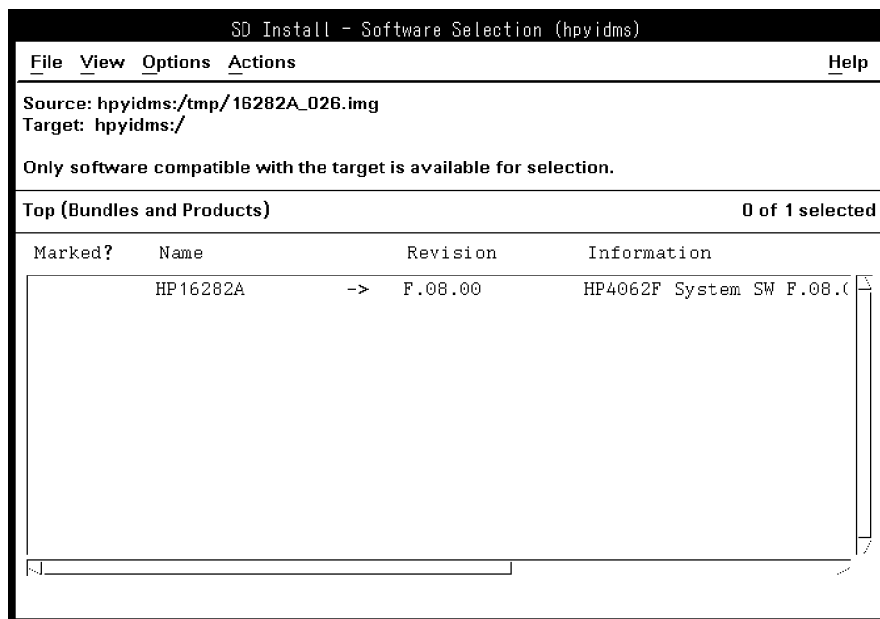

Figure 5-3. SD Install Window with HP 4062UX/F System Software
- d. Press **OK** on the specify source window. The specify source window disappears, and HP 4062UX/F system software is displayed in SD install window as shown in Figure 5-3.